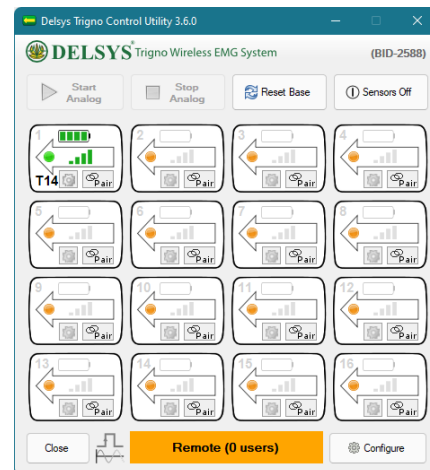

Figure 4: The Delsys Trigno Control Utility.
1. Launch the Trigno Control Utility (Figure 4) and ensure that Delsys Sensors have been paired and are connected.